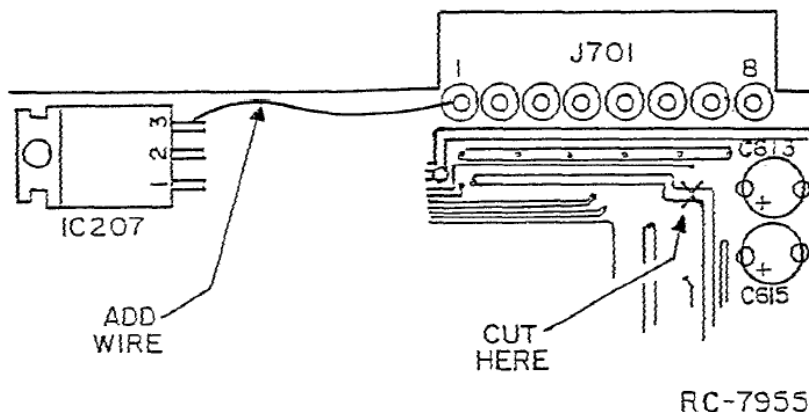

Figure 5 - DTMF Microphone Modification
2. To isolate J701-1 from the printed board, carefully cut the zigzag run on the component side of the board near capacitors C613 and C615 (see Figure 5).
- a. On the Transmitter/Receiver Board (A802), connect jumper plug P502/551 across pins 1 and 2 of J502/J551 (IN).